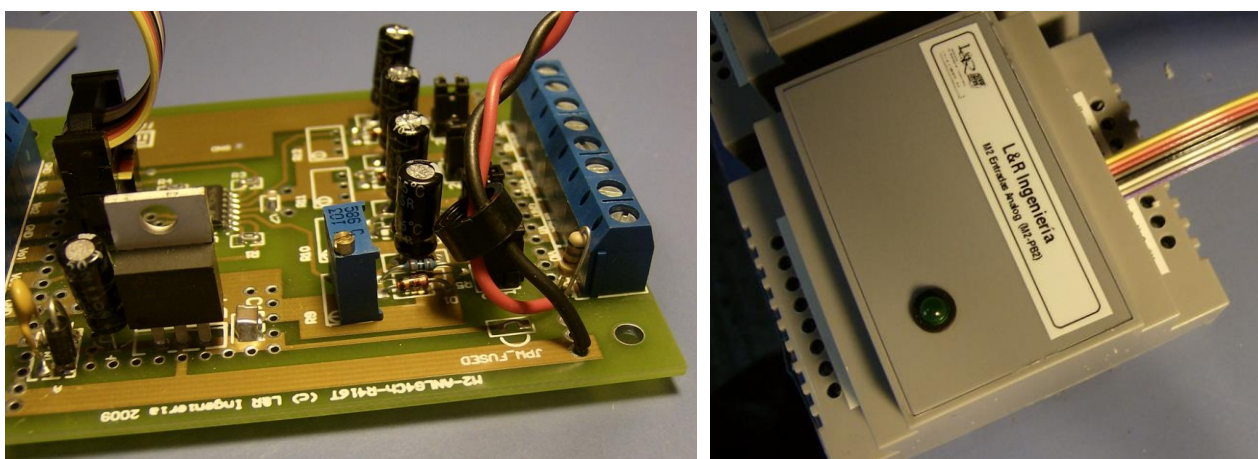
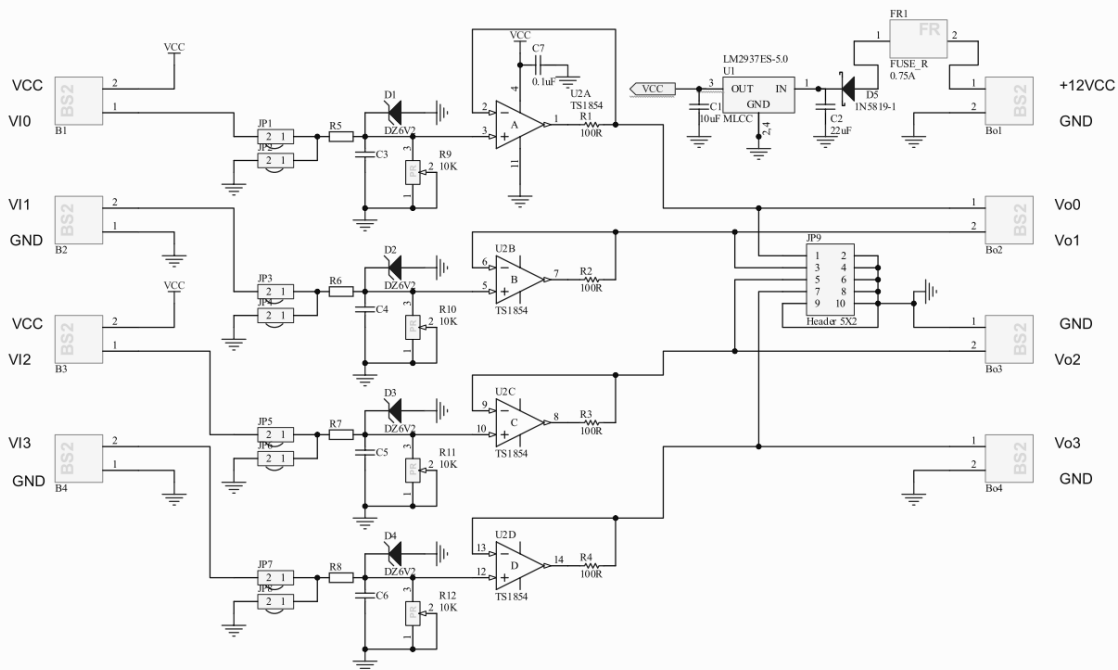

Figure 24 – M2 Analog 4 channel input board
Figure 25 – L&Ring. M2 Analog board – 4 channel single-ended.
For permanent connection, L&R Ing. offers analog signal conditioning boards such as the 4-channel M2, shown in Figure 24. This kind of board can be configured for specific input ranges or bought without input resistor components, which can be soldered by the end user. Two of these would be necessary to cover the 8 available inputs of the CL2bm1 boards. In Figure 25 the schematic of the M2 board is shown, the first order RC filters and TS1854IDT [ref16] operational amplifier followers allow for slow-varying signals and are adequate for a large range of typical applications.